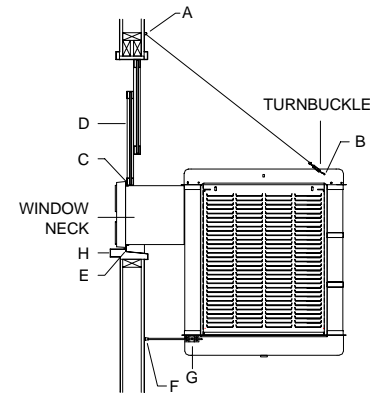

FIG. 1
- **Screw chain hooks into window facing.** Position the two chain hooks above the neck of the cooler a distance equal to the width of the cooler apart (A-Fig. 1). Hook one hanger chain in each hook and then one turnbuckle in other end of each chain. **NOTE:** Chain hooks supplied with this mounting kit have wood screw threads for wood walls. Concrete, brick walls or concrete blocks require sufficiently strong wing nuts or anchors with mating hooks.
- **Position cooler in window.** Position neck of cooler so that bottom of neck flange rests on window sill and flange (E-Fig. 1) is snug against edge of sill (H-Fig. 1). With cooler in position, hook the turnbuckles into the holes of the top panel near the back of the cooler (B-Fig. 1).
- **Place window behind retainer strip.** Raise back of cooler so that the window (D-Fig. 1) may be brought down behind top of panel retainer strip (C-Fig. 1).
- **Adjust house legs.** Pull out house legs so that the rubber bumpers rest against house siding (F-Fig. 1). Tighten screw in retaining collar. (G-Fig. 1).